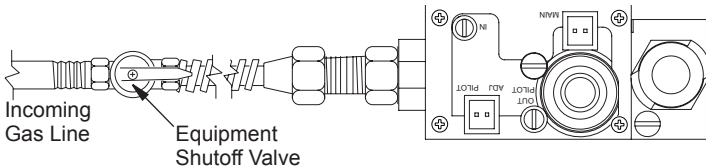

Figure 29 - Turning Equipment Shutoff Valve to the OFF Position
5. Turn equipment shutoff valve clockwise  to the OFF position (see Figure 29). Do not force.
6. Wait five (5) minutes to clear out any gas. Then smell for gas, including near the floor. If you smell gas, STOP! Follow "B" in the safety information. If you don't smell gas, go to the next step.